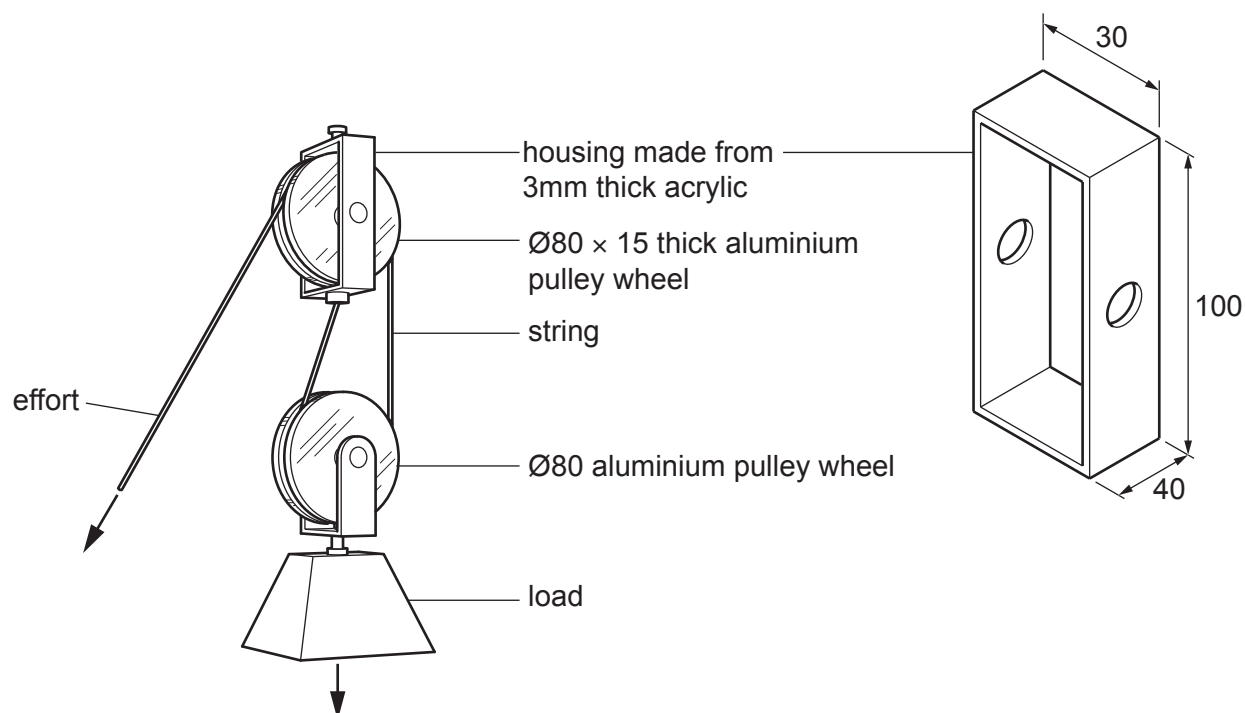

Fig. 3.1
- 3 Fig. 3.1 gives details of a model of a pulley system which is to be made in a school workshop.